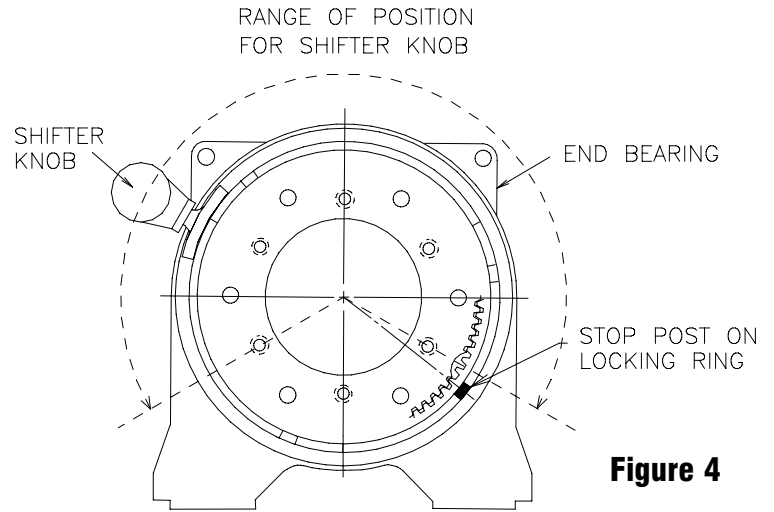

Figure 4
5. Determine position shifter knob needs to be for your application. **Note:** Shifter knob cannot be positioned too low or it will interfere with the feet on the Gear End Bearing (see Range of Position in Figure 4).